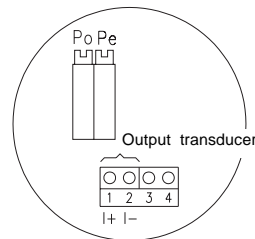

Fig. 5 : Pin connection GP23/24 with Instrument transformer
- Connect strands to the clip terminals (fig. 5 and 6).